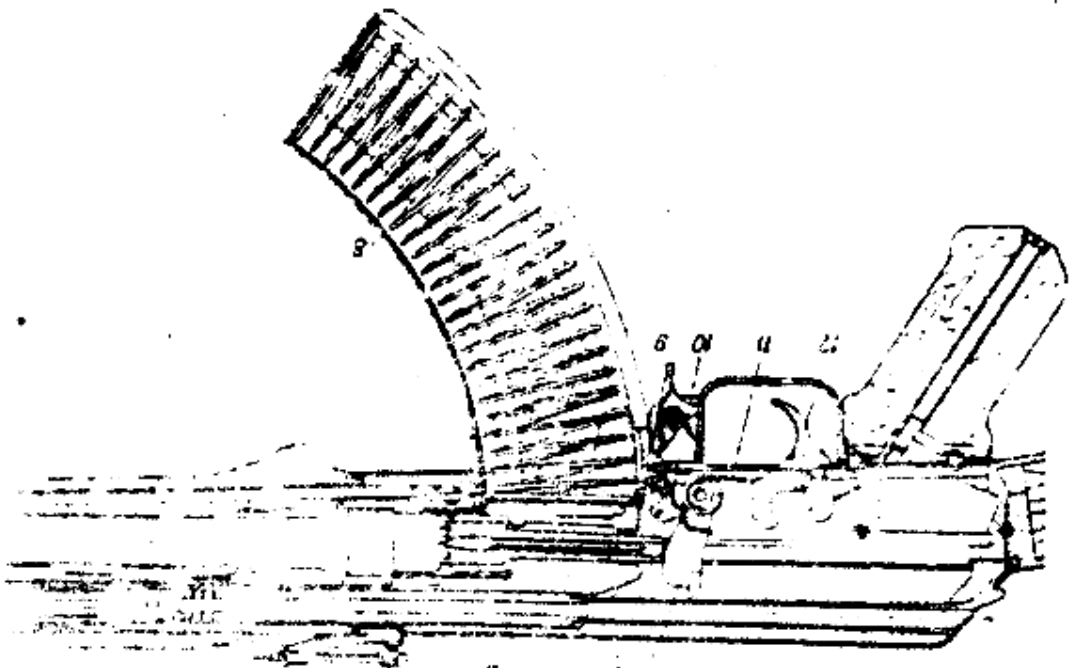

Figure 59. Trigger mechanism set on safety.
The selector is in the extreme top position, obstructing the passage of the cocking handle. The selector lever (14) (fig. 59) is rotated forward. This places the selector lever lug directly over the rear end of the disconnecter and the right trigger bar, preventing both the disconnecter and the trigger from rotating. Since the trigger cannot rotate, the hammer cock notch cannot engage the semiautomatic sear; thus, the hammer prevents the operating rod from moving to the rear.